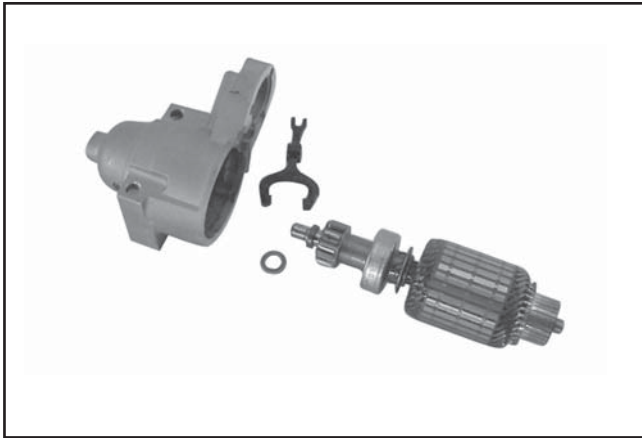

Figure 7-46. Armature and Lever Removed.
8. Take out the drive lever and pull the armature out of the drive end cap. See Figure 7-46.
9. Remove the thrust washer from the armature shaft. See Figure 7-46.